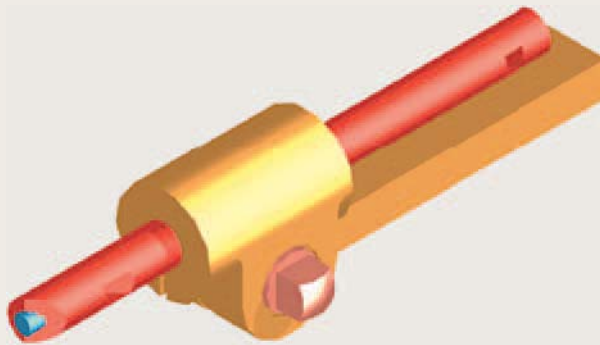

Fig. 15.48 Exercise 1
1. A rendering of an assembled lathe tool-holder is shown in Fig. 15.48. The rendering includes different materials for each part of the assembly.